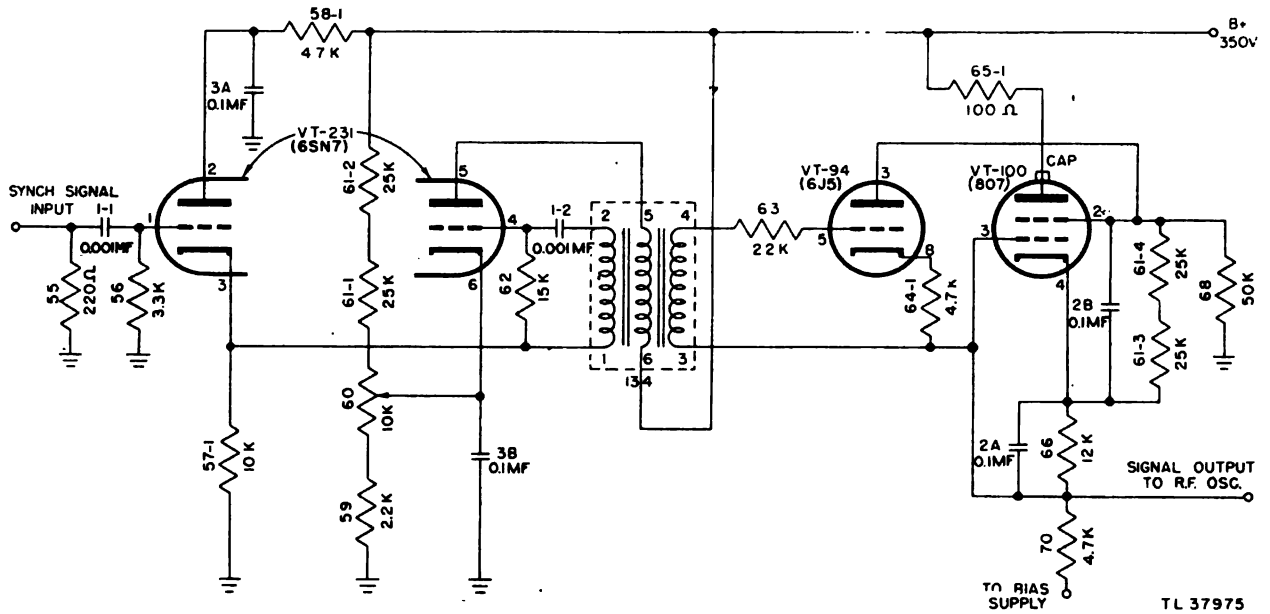

Figure 8. Modulator circuit, partial schematic.
a. GENERAL. A modulator, VT-100 (807) in a bootstrap circuit, is used to pulse the transmitter (fig. 8). The function of this circuit is to provide a large negative bias for the r-f oscillator grids and a high-voltage pulse of very short duration to trigger the r-f oscillator tubes.